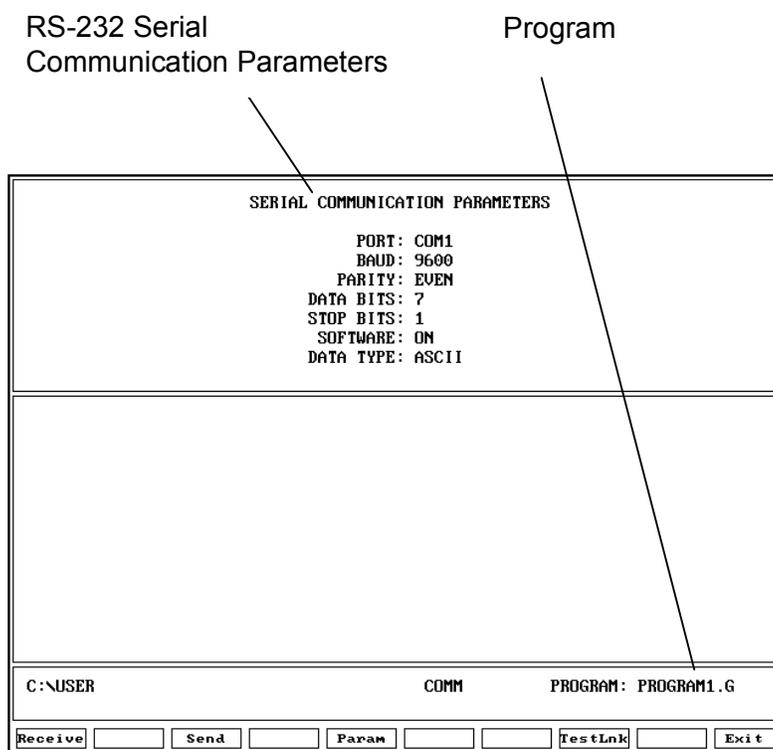

Figure 15-2, RS-232 Communication Screen
3. Move highlight to select **Communications**, and press **ENTER**. The communication screen is displayed. Refer to **Figure 15-2**.